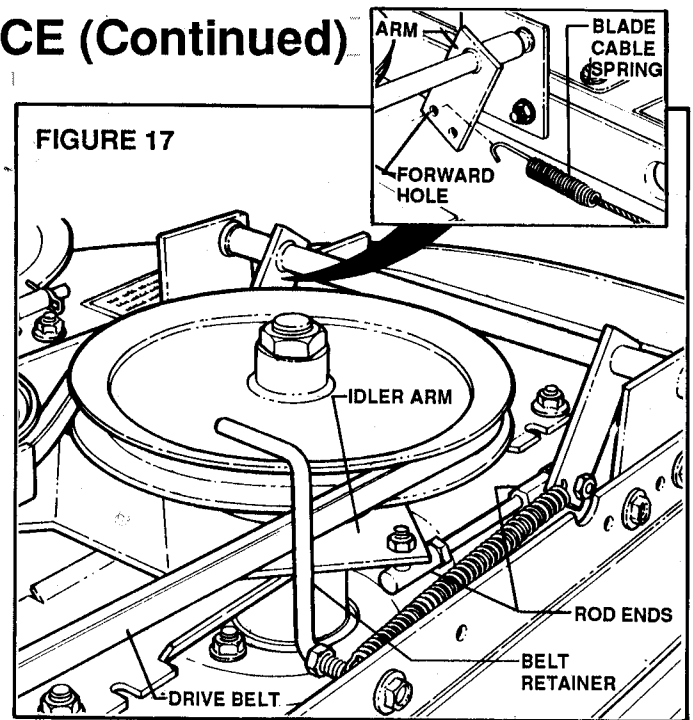

FIGURE 17
3. Remove BLADE CABLE SPRING from hole in CROSS SHAFT. See inset in Figure 17.
WHEN INSTALLING BLADE CABLE SPRING, MAKE SURE SPRING IS ATTACHED IN FORWARD HOLE OF ARM. (REFER TO FIGURE 17).